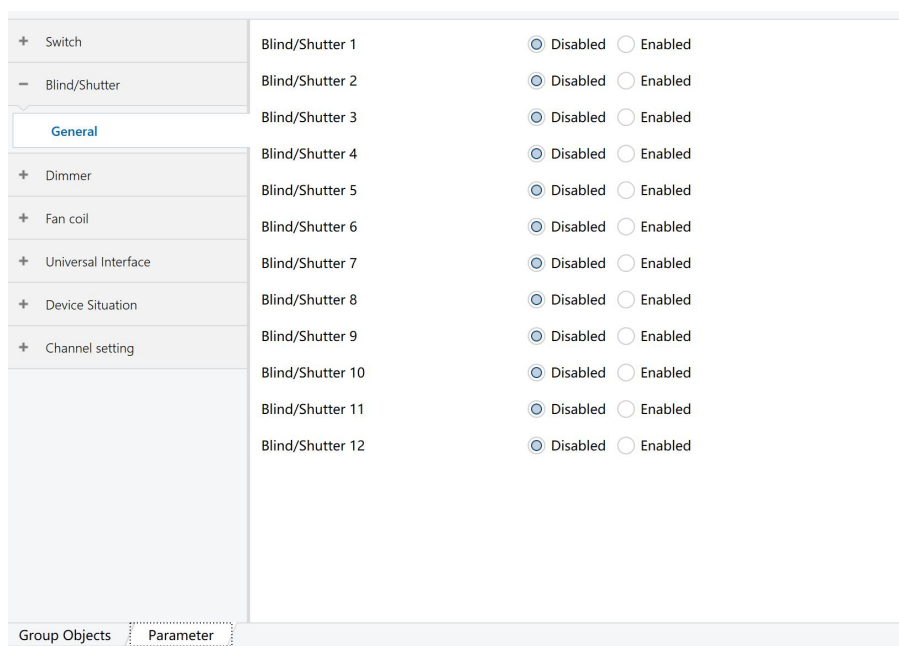

Figure 6.2.1
1) As shown in Figure 6.2.1, the "Blind Shutter" fan function module has 12 Channels, and the options are: "Disabled", "Enabled"